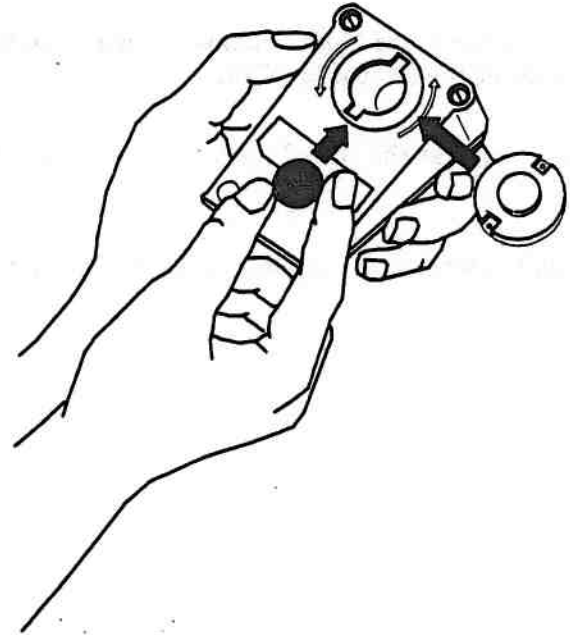

Figure 3-53. Mouse Housing
1. Turn the mouse upside down to locate the ball housing cover. Remove the cover by turning it counterclockwise (Figure 3-53).